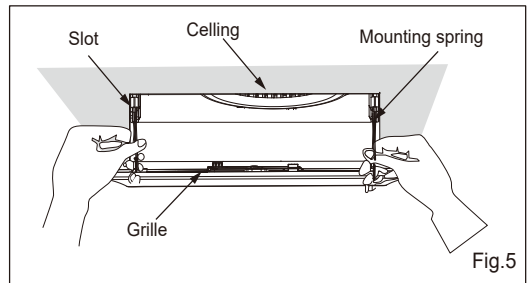

Fig.5
5. Insert the mounting springs into slots as shown and mount grille to fan body. (Fig.5)